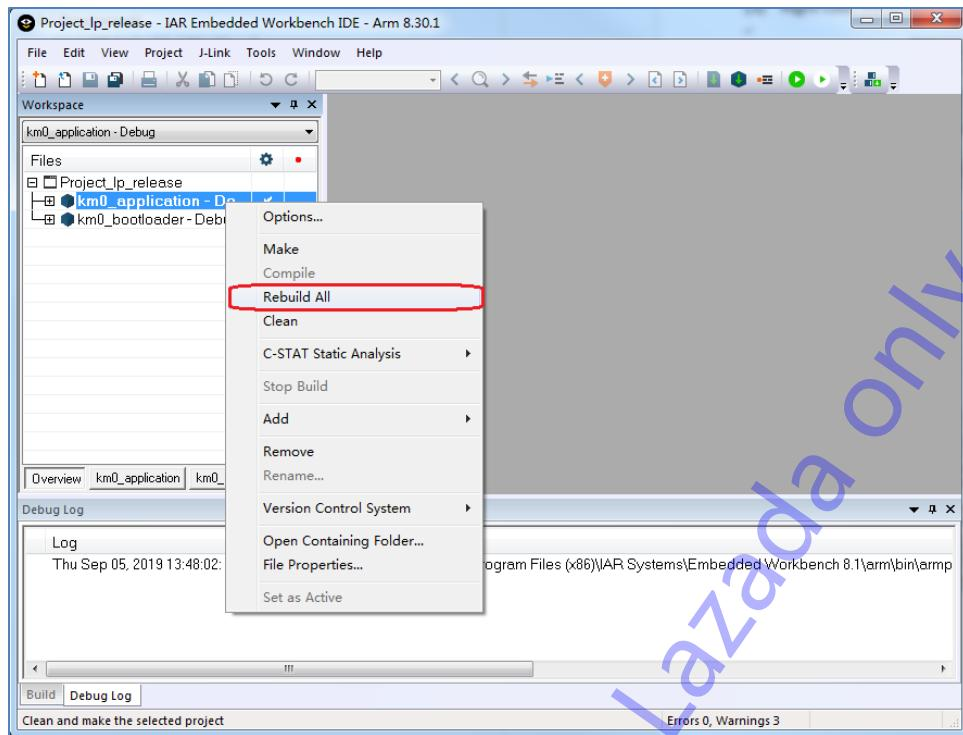

Fig 6-8 Building KM0 project
**Note:** If you have installed IAR version 9.xx or above from official website, click Tools > Option > Project, and make ensure the setting "Make before debugging" is set to "Never" before executing step (3).
- (3) Right click the project and choose "Rebuild All", as Fig 6-8 shows. The km0\_bootloader and km0\_application should compile in order.